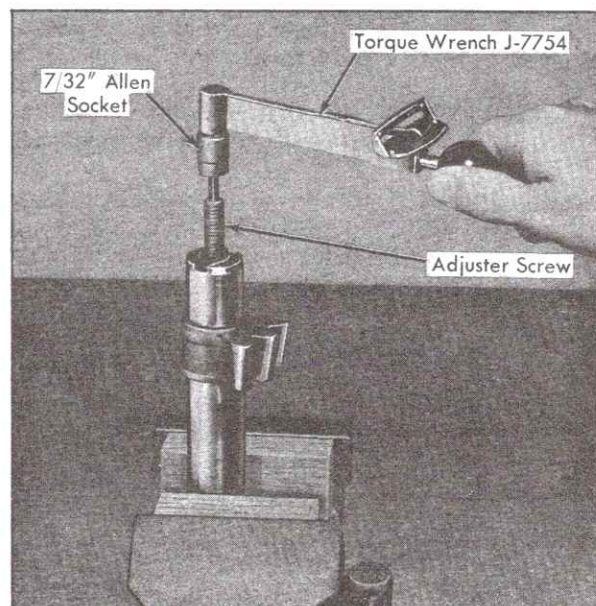

Fig. 9-33 Checking Pitman Shaft Adjuster Screw
b. Using Torque Wrench, J-7754, and a 7/32 inch Allen socket, measure the torque required to turn the adjuster screw, Fig. 9-33. Torque reading should be between 1-15 inch-pounds. If reading is not within this range, the pitman shaft must be replaced.